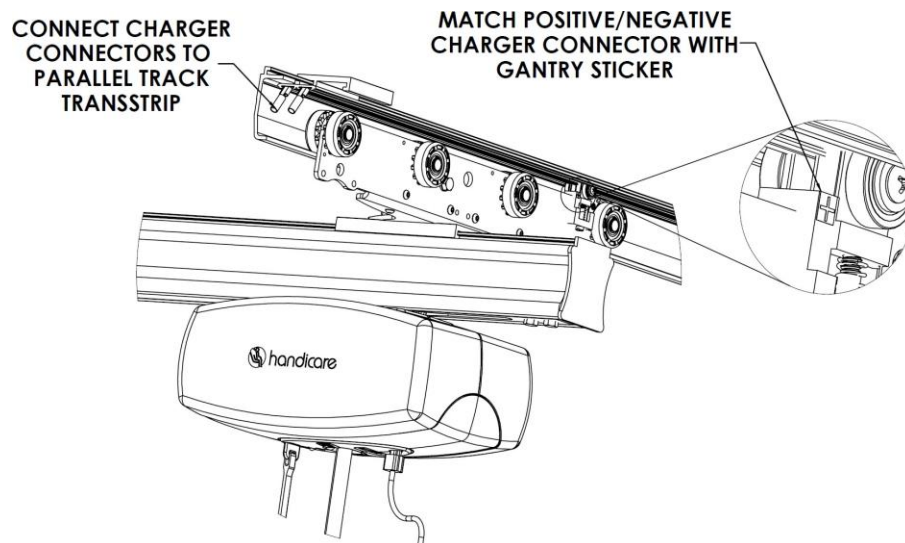

Figure 40: **Ensure Spade Connectors are Connected to the Corresponding Positive/Negative Gantry Contact**
13. Connect the wires from the power supply to the parallel track TransStrip contacts (Figure 40).